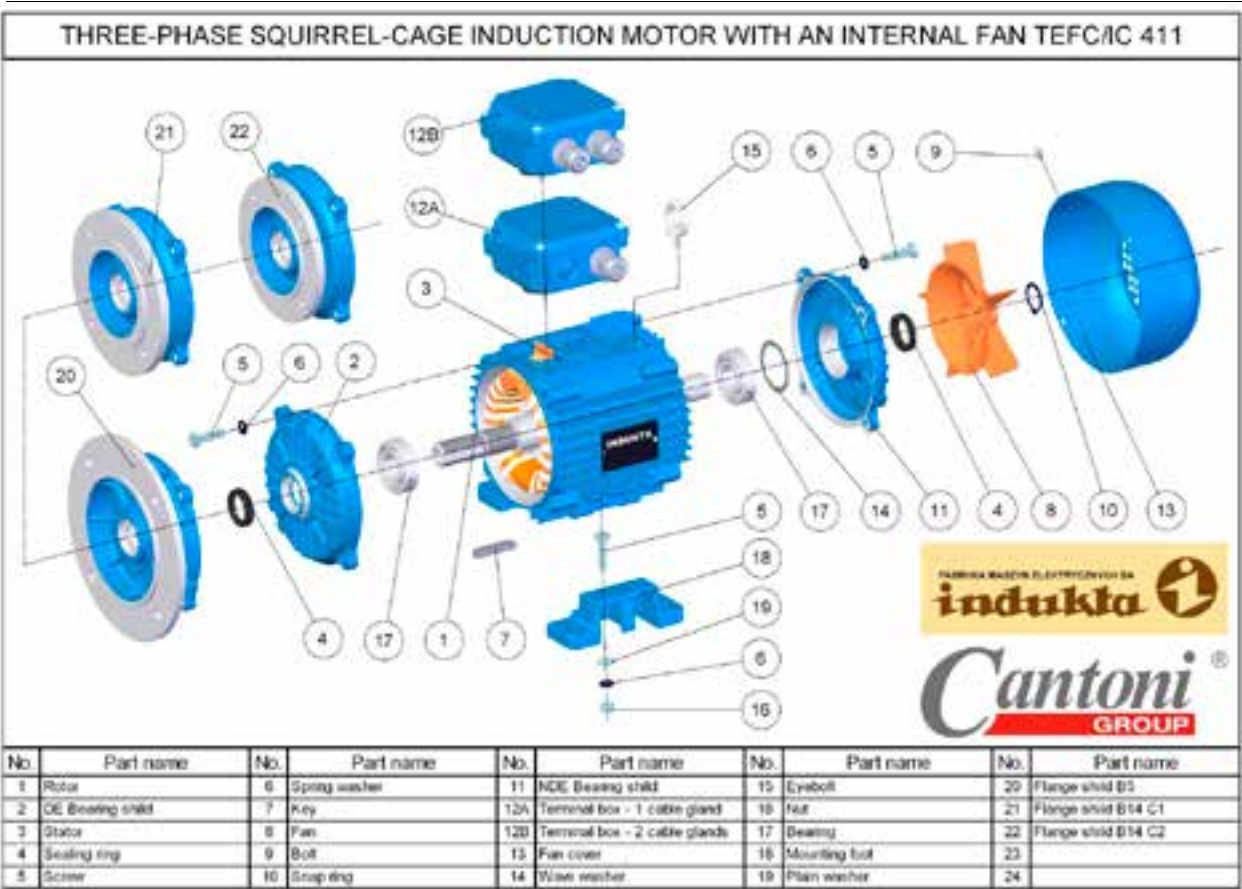
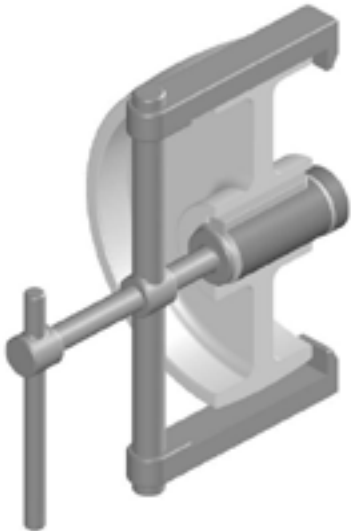

Fig. 7
Fig. 8
By principle, motor disassembly should take place outside the place of its operation, in a specially prepared location. Tools required include a regular set of assembly tools and instruments. Prior to a correct disassembly, take off the motor pulley or the half coupling using a turnbuckle (fig. 8), remove the key (7) from the shaft extension, unscrew 4 screws (5) and remove the ventilator cover (13) (fig. 7). After unscrewing 4 screws (5) which mount the bearing brackets “P”, carefully remove the rotor (1) with the bearing brackets “P” (11) and the ventilator (8) from the stator, without damaging the winding. If it is necessary, or when replacing the grease, remove both bearings (17) using a turnbuckle.